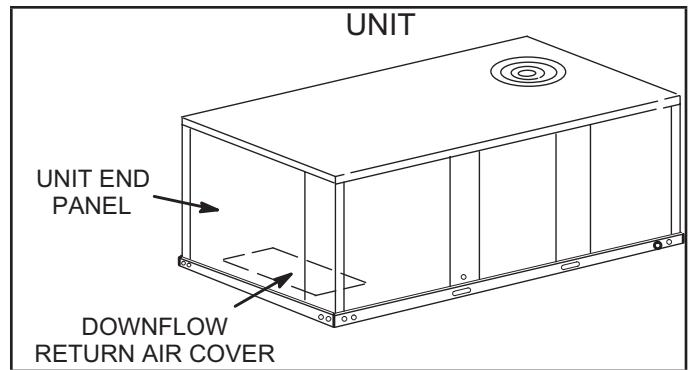

FIGURE 6
- 1 - Remove unit end panel. See FIGURE 6.
- 2 - Install the downflow return air cover in horizontal airflow applications. See instructions provided with K1HECK and FIGURE 6.